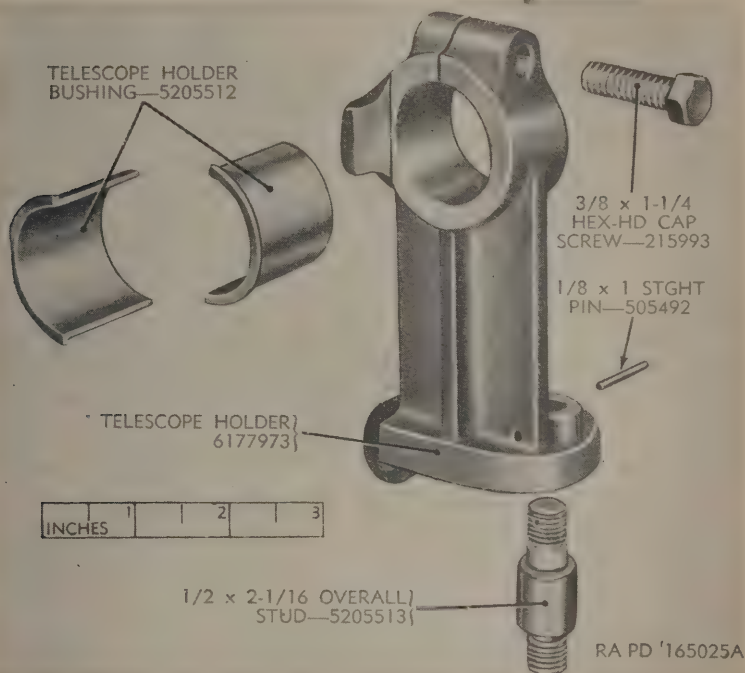

Figure 51. Telescope mount M12—telescope holder assembly—exploded view.
(fig. 51)
a. Press or drive out the straight pin (fig. 51) that locks the stud in place; then unscrew the stud from the holder.